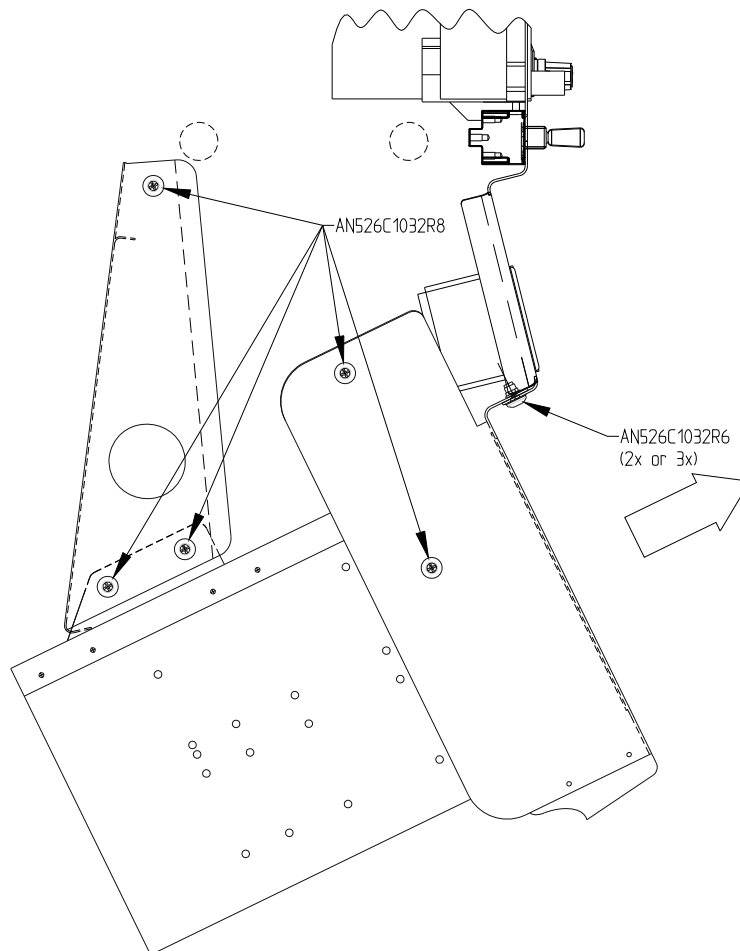

Figure 4: Attachment screws of the the instrument subpanel (EA 300/L shown)
- Unscrew AN526 series attachment screws from the instrument subpanel and remove the subpanel in rearward direction to the pilots seat while the control stick is in the most LH or RH control input position (see figure 4). In some cases the LH and RH AN526 fuselage attachment screws of the instrument panel have to be unscrewed as well.